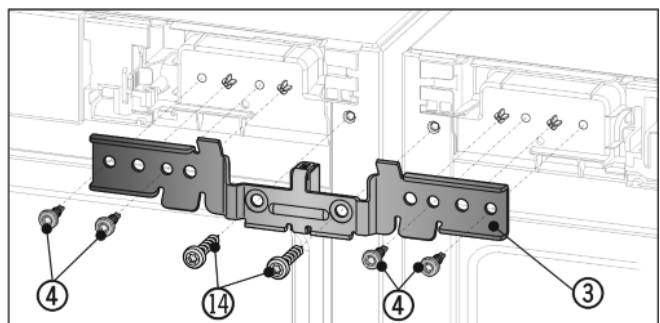

Fig. 7
- ▶ Slide the bracket Fig. 7 (3) onto the pins with the spacer between the appliances. Screw the brackets in loosely alternately right and left with four screws Fig. 7 (4) and the previously removed earthing screws Fig. 7 (14).